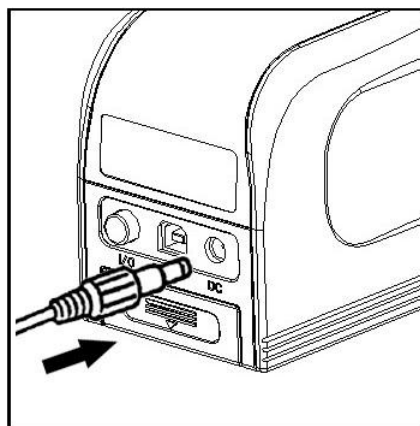

Figure 8. Power Adapter connection
1. First check and confirm if the Switch is on Out (O),
2. Plug the input cable of the power adapter as shown on Figure 8 into the DC connector.